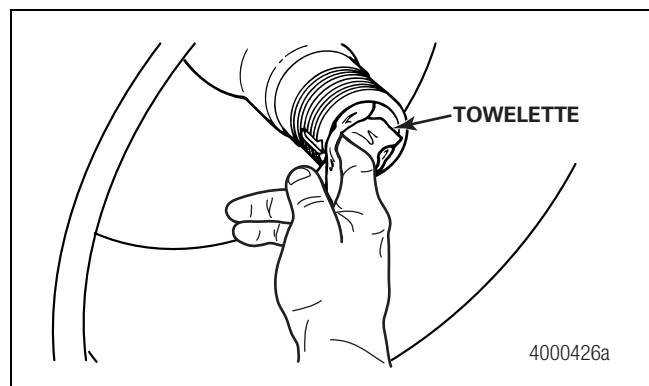

Figure 13
12. Use a moist towelette to clean one spindle bore of contaminants such as grinding dust, dirt, and wheel-end lubricant. Protect the cleaned bore from additional contaminants. Figure 13.